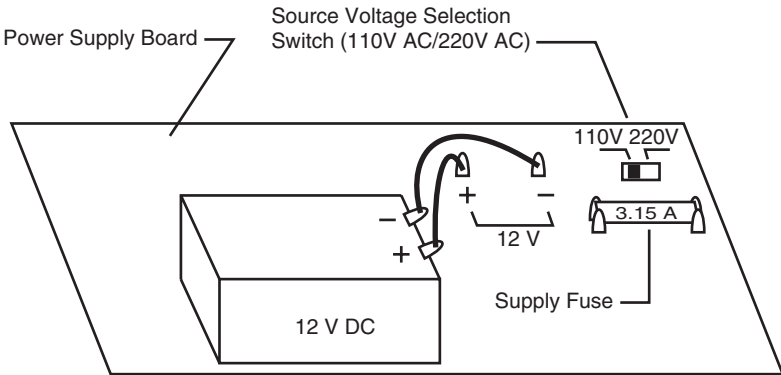

Figure 24
- Open up the Model 4500. Position the selector switch on the power supply board (See Figure 24).
- Replace the fuse (Figure 24) and reassemble the instrument.